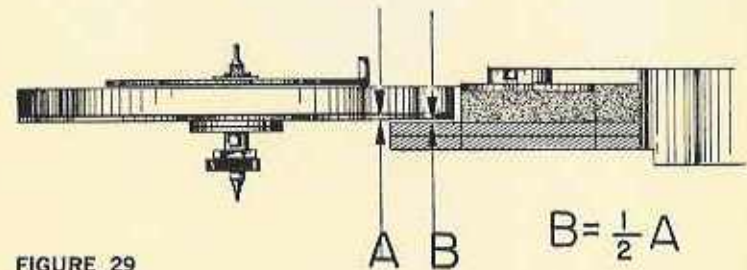

FIGURE 29
Check the air gap (the space between the armature soldered to the underside of the balance, and the terminals of the stator). This should be between 0.09 and 0.17 mm, or one-half to three-quarters the thickness of the armature, as in (B) of Figure 29.